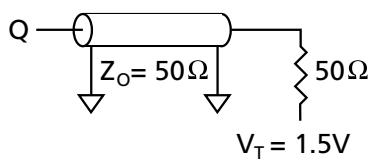
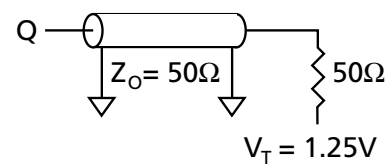

Figure 1
Figure 3
1. Test conditions as specified with the output loading shown in Figure 1 for 3.3V I/O (V_{DDQ} = +3.3V +0.3V/-0.165V) and Figure 3 for 2.5V I/O (V_{DDQ} = +2.5V +0.4V/-0.125V for 2.5V I/O) unless otherwise noted.
Output load See Figures 1 and 2
Output load See Figures 3 and 4